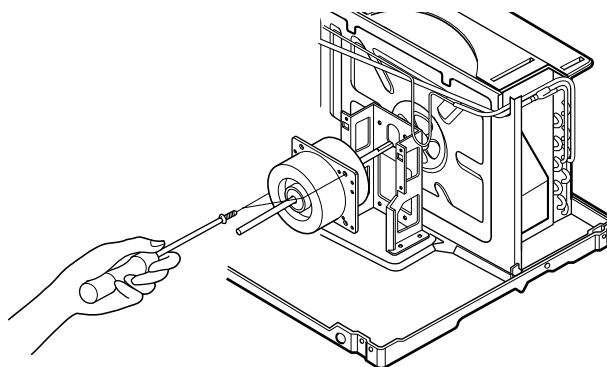

Figure 23
7. Remove the 2 screws which fasten the motor from the mount motor. (See Figure 23)
9. Re-install the components by referring to the removal procedure, above. (See Figure 23)